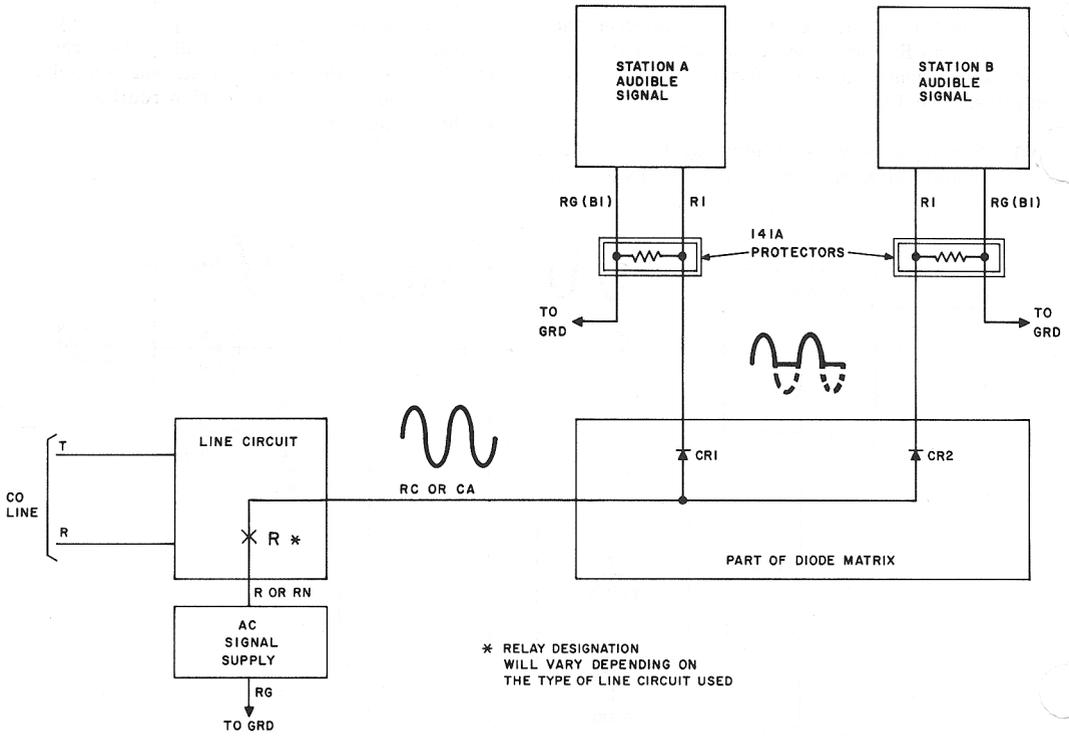

Fig. 2—Simplified Schematic of One Line and Two Audible Signals
- 2.03** *Common Ringing Lead:* A simplified schematic of one line operating two-station audible signals is shown in Fig. 2. A call on line 1 operates relay R, causing contact R to make. The ac signal is applied through diodes CR1 and CR2. The positive components of the ac signal operates both station audible signals.
- 2.04** If no other line will ring station A or B (Fig. 2), the diodes and matrix are not required. Ringers in the stations can be rung directly from tip and ring of the line.